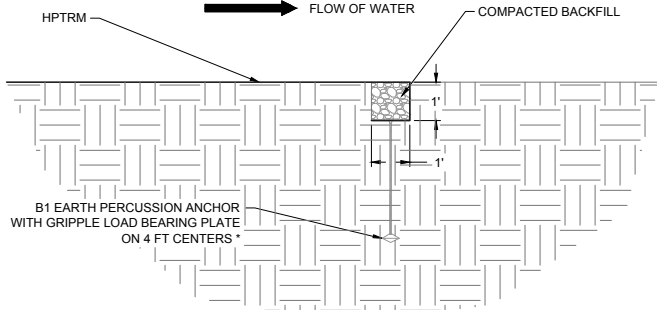

FIGURE 2: INITIAL CHANNEL ANCHOR TRENCH (DOWNSTREAM) DETAIL
- Excavate an Initial Channel (IC) Anchor Trench 1 ft wide x 1 ft deep (300 mm x 300 mm) minimum wide across the channel at downstream end of project (see Figure 2). Deeper initial trench and/or hard armoring may be required in channels that have the potential for scour.
- Place the HPTRM roll edge into IC Anchor Trench. Secure HPTRM roll edge in Initial Channel Anchor Trench with Gripple Earth Percussion Anchors on 4 ft (1.2 m) centers (see Figure 2).